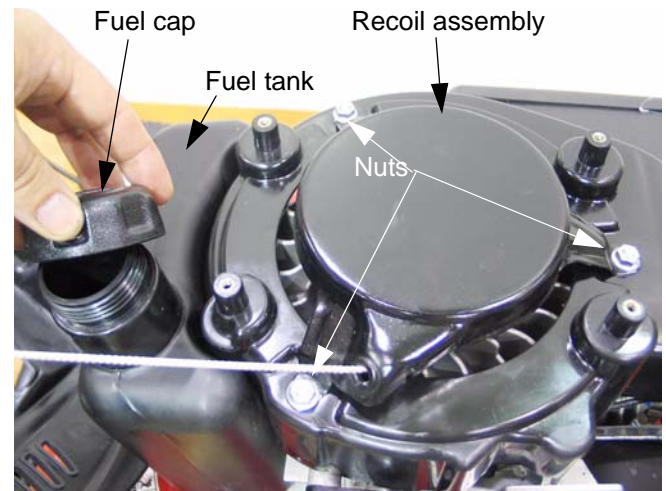

Figure 6.2
6. Remove the three nuts that secure the recoil assembly and fan shroud to the engine using a 10mm wrench. See Figure 6.2.